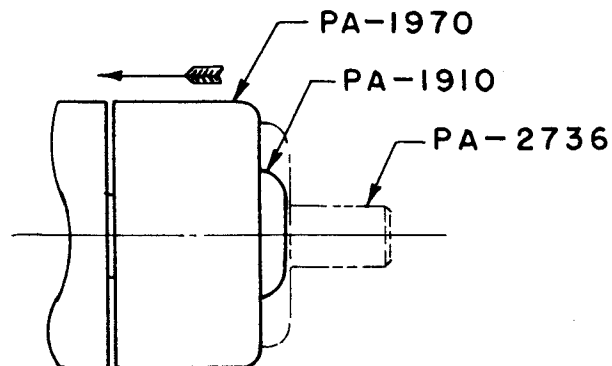

FIGURE 1-9
b. Reel End Alarm (See figure 1-9.)